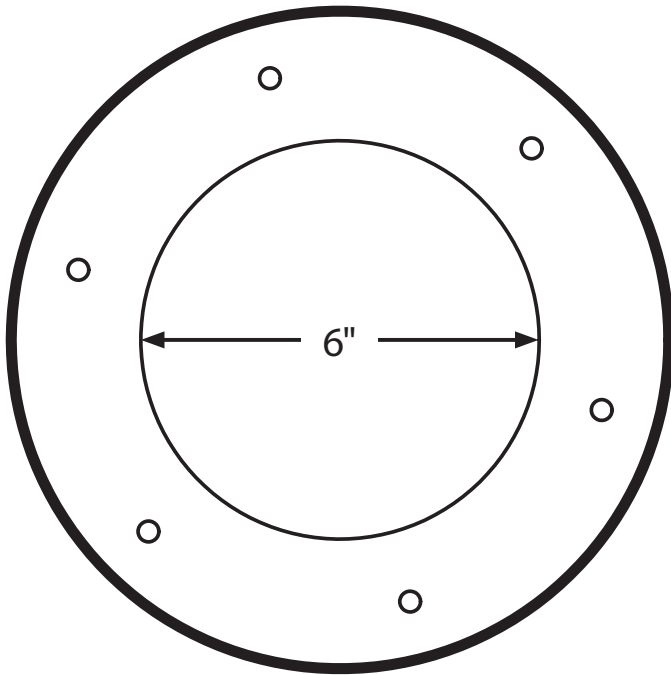

FIG. 1
Note: Use the base of the Cyclone (A) for reference [FIG. 1].